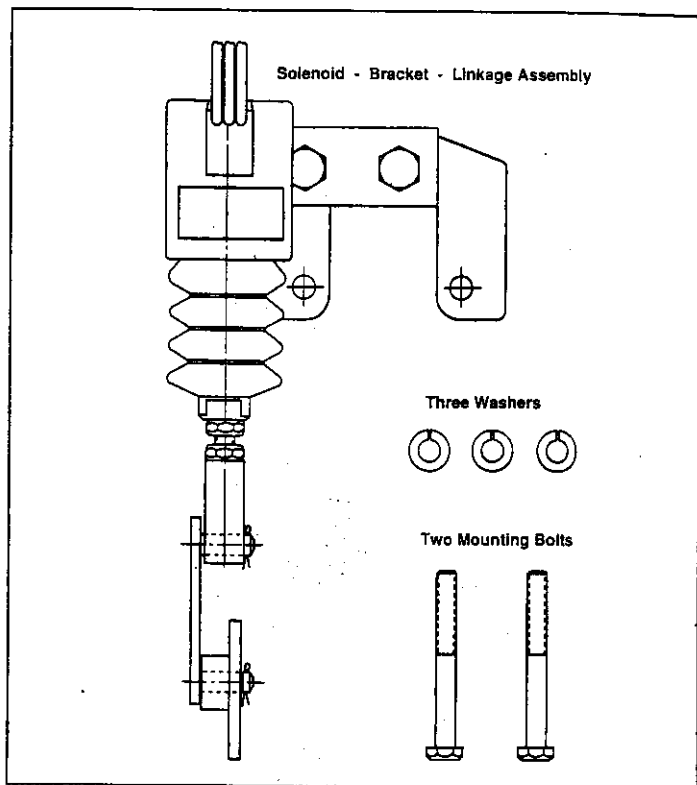

FIGURE 1: KIT CONTENTS
1. Refer to figure 1 to verify contents of kit.